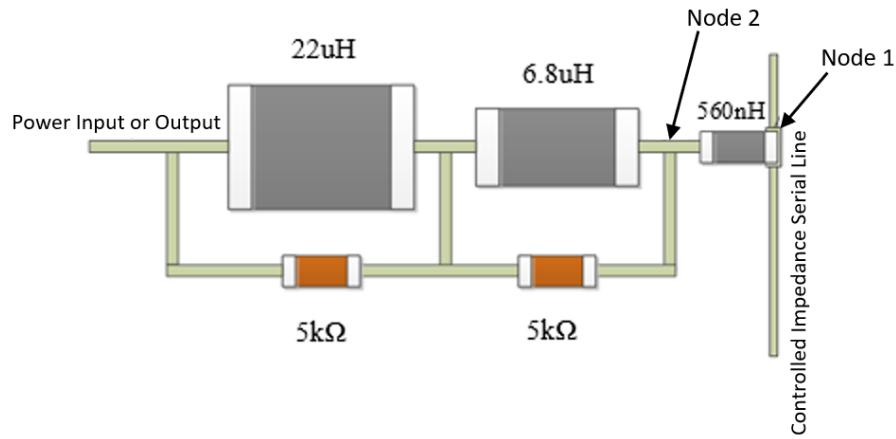

Figure 44. PoC Placement Strategy
- Place lowest inductor value directly on the GMSL3 serial link trace followed by the next highest and so on (see Figure 44 for a placement example).